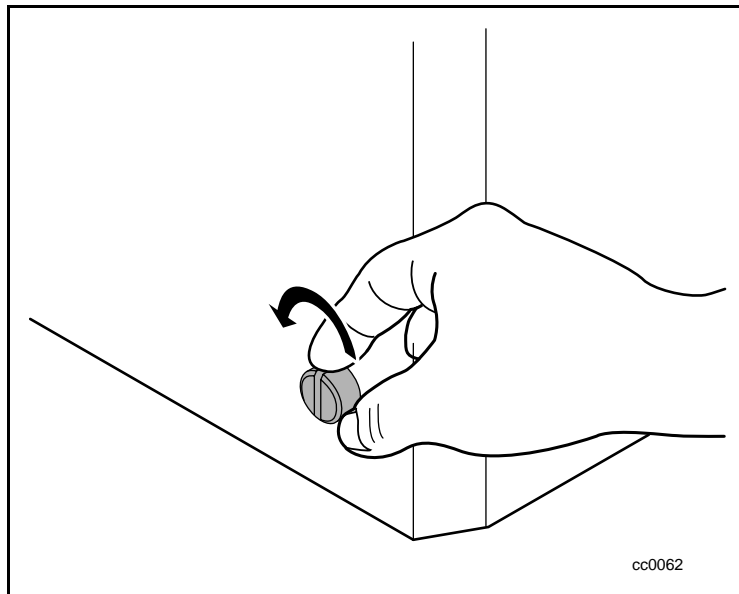

Figure C-2. Releasing the lockdown mechanism
3. Turn the spring-loaded lockdown screw at the back of the unit counter-clockwise. The screw pops out and the lockdown mechanism releases from the shuttle (Figure C-2).